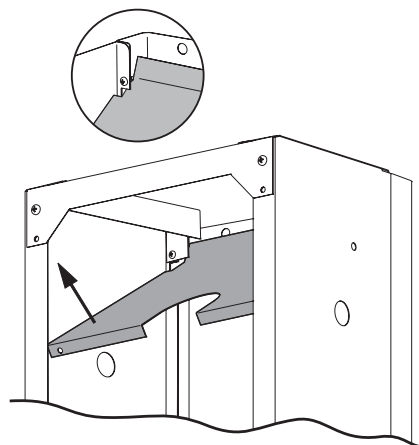

Figure 8
8. Attach the Heat Shield to the Left and Right side assemblies with two 1/4-20 x 3/4 Phillips Truss Head screws and 1/4-20 Hex nuts. Make sure shield is resting on the cutout provided in the side panels before tightening the screws and nuts. See Figures 8 and 9. Note: Grill head removed for clarity.